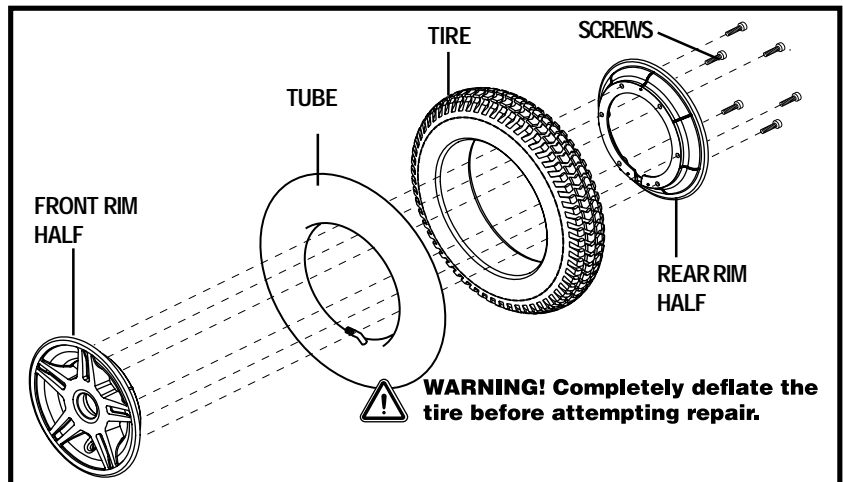

Figure 32. Quantum 600 Drive Wheel Disassembled
6. Remove the screws that fasten the two rim halves together. See figure 32.